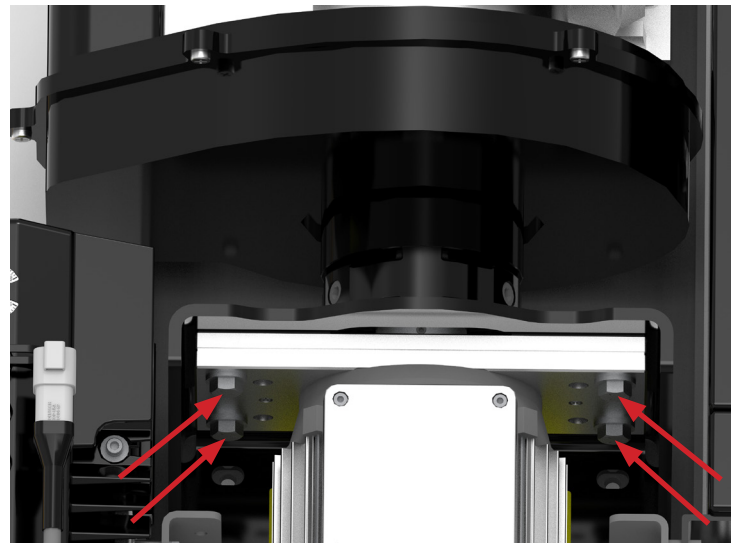

Figure 19: Adapter Plate Bolts
3. Loosen the hex head screws that hold motor adapter plate 1 to motor adapter plate 2 (see Figure 19). Support the body of the motor so it can be pulled straight back. The drive coupling hub will come free with the motor.